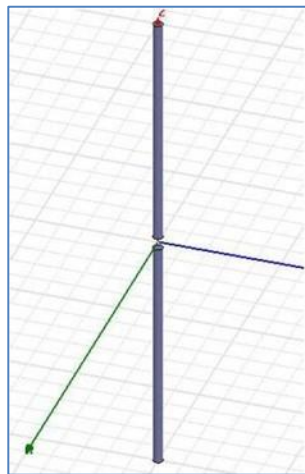

Figure 9.2: Dipole antenna
2. Calculate the directivity of a dipole antenna as shown in the figure 9.2 with a radiation efficiency of 95% operating at 900 MHz.
3. The gain (G) of the antenna can be calculated using the formula $G = 4\pi \times \text{directivity}$.
4. The directivity (D) of the antenna can be calculated using the formula: $D = 4\pi \times (\text{Radiated power} / \text{total power})$.
1. Simulate the radiation pattern of the dipole antenna as shown in the figure 9.2 in the azimuth plane ($\phi=0$) and the elevation plane ($\theta=90$). Measure the beamwidth and directivity of the antenna.